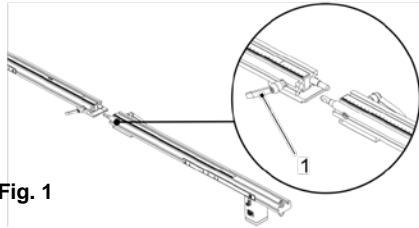

Fig. 1
- Connect the optional two-part measuring bar and mount clamping lever (1, Fig. 1) on both sides.